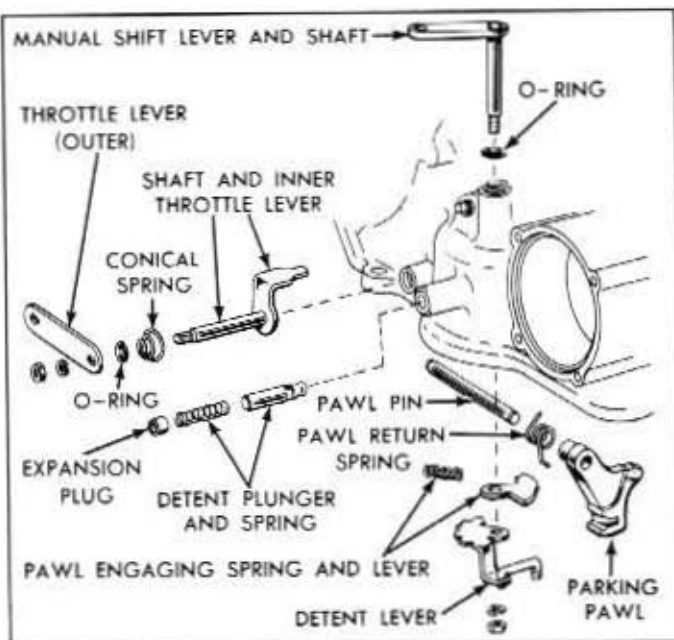

Fig. 7A-36—Throttle and Manual Linkage—(60C-4436)
1. Remove the nut and lockwasher from the manual lever shaft. Refer to figure 7A-36.